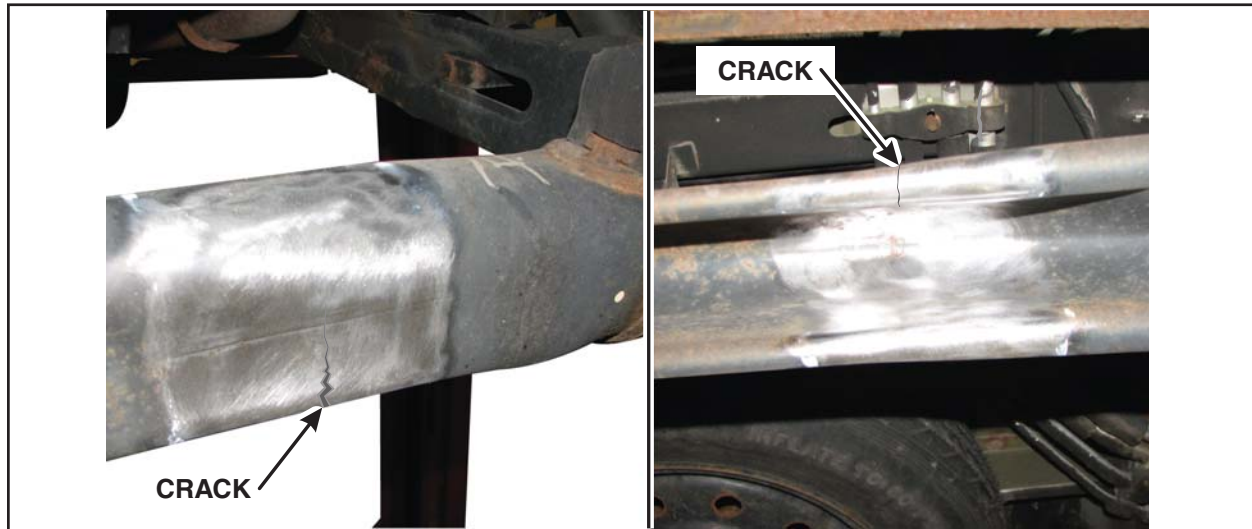

FIGURE 1
1. Visually inspect the entire rear axle beam for cracks or perforations (holes). See Figures 1 and 2.